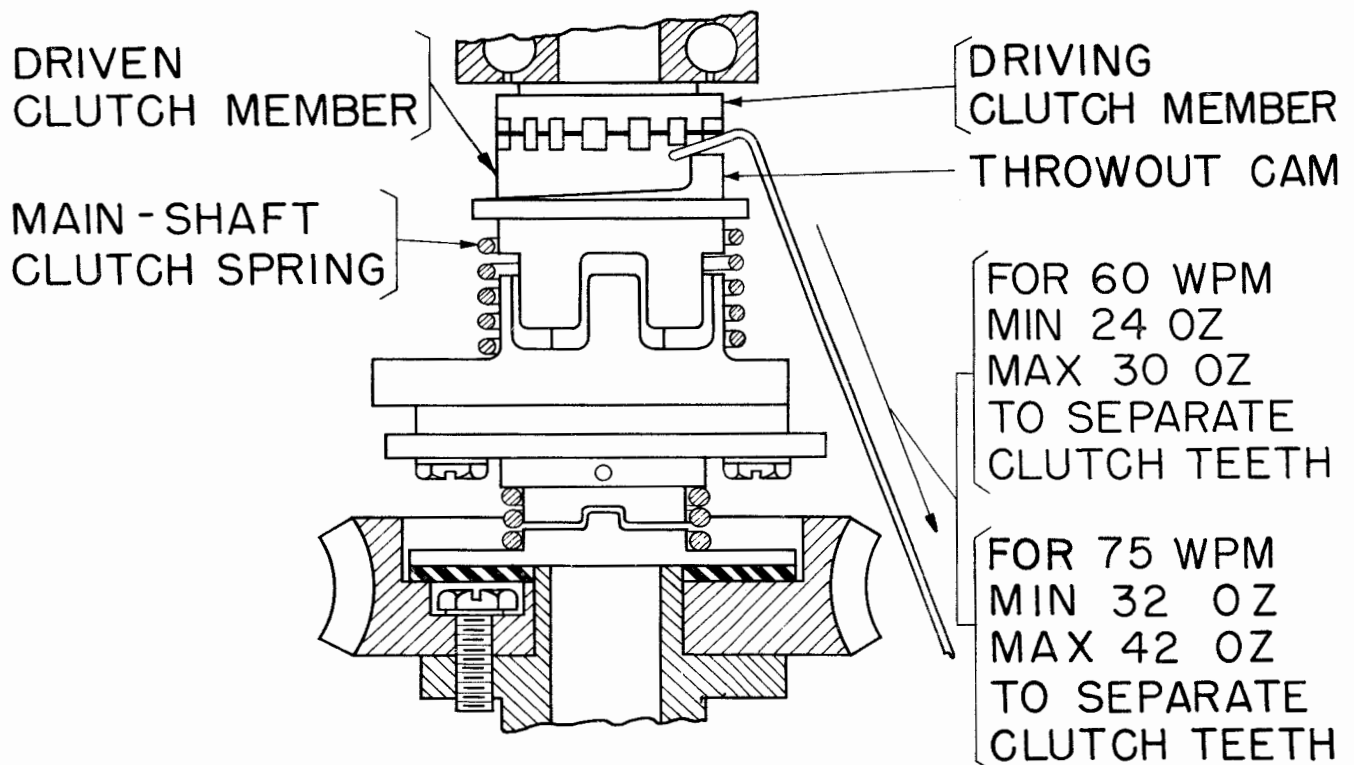

Figure 2
2.04 Main-shaft-clutch Spring: With the teeth of the driven-clutch member resting against the teeth of the driving member, but not engaged, hook a scale over the throwout cam on the driven-clutch member and pull as nearly in line with the shaft as possible. It shall require a pull as indicated in Figure 2 to separate the clutch teeth.
- (1) Turn the main shaft until the throwout lever is resting against the low part of the driven-clutch member.
- (2) With the base plate removed, insert the pull end of the scale through the cable hole in the base and hook it over the throwout cam on the driven-clutch member, then pull as shown in Figure 2. Remount the base plate.